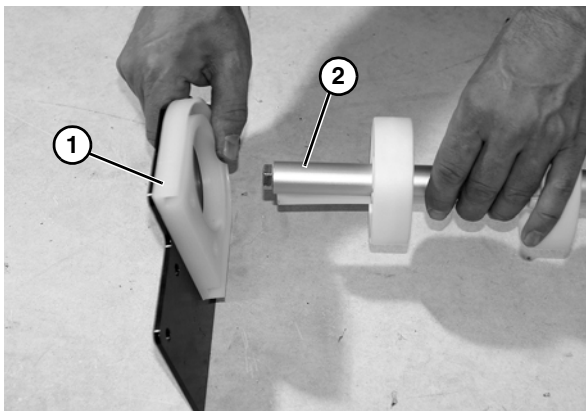

Figure 64
4. Remove end plate (**Figure 64, item 1**) from roller assembly (**Figure 64, item 2**). Remove opposite end.